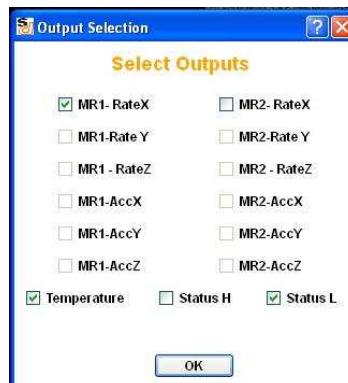

Figure 9: Output selection window
6. *Uart Frame Config*: pressing the button, a pop-up window allows the user to choose the output to transmit via UART during the free running mode, between all the possible ones. The choice is made by marking checkbox, as shown in Figure 9.